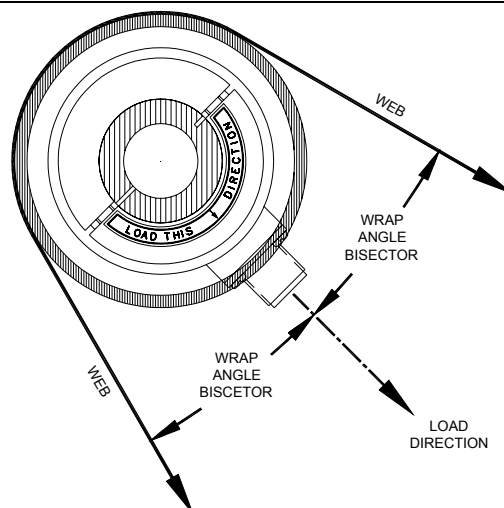

Figure 5 - Proper Orientation of the Cartridge Transducer
<p style="text-align: center;">Stud (S)</p>	<ol style="list-style-type: none"> 1. Before tightening the mounting bolt, rotate the transducer body until the force direction (indicated by the arrow on the label) is aligned with the vector of the web force. The vector of the web force is the bisector of the wrap angle. Refer to Figure 5. <p style="text-align: center;"> Rolls often have an uninterrupted shaft that extends to form the journals. Though the roll may be described as having a "dead shaft", neither journal end can rotate independently of the other. Attempting to rotate one transducer, while the other end of the roll is clamped can result in damage to the transducer.</p>